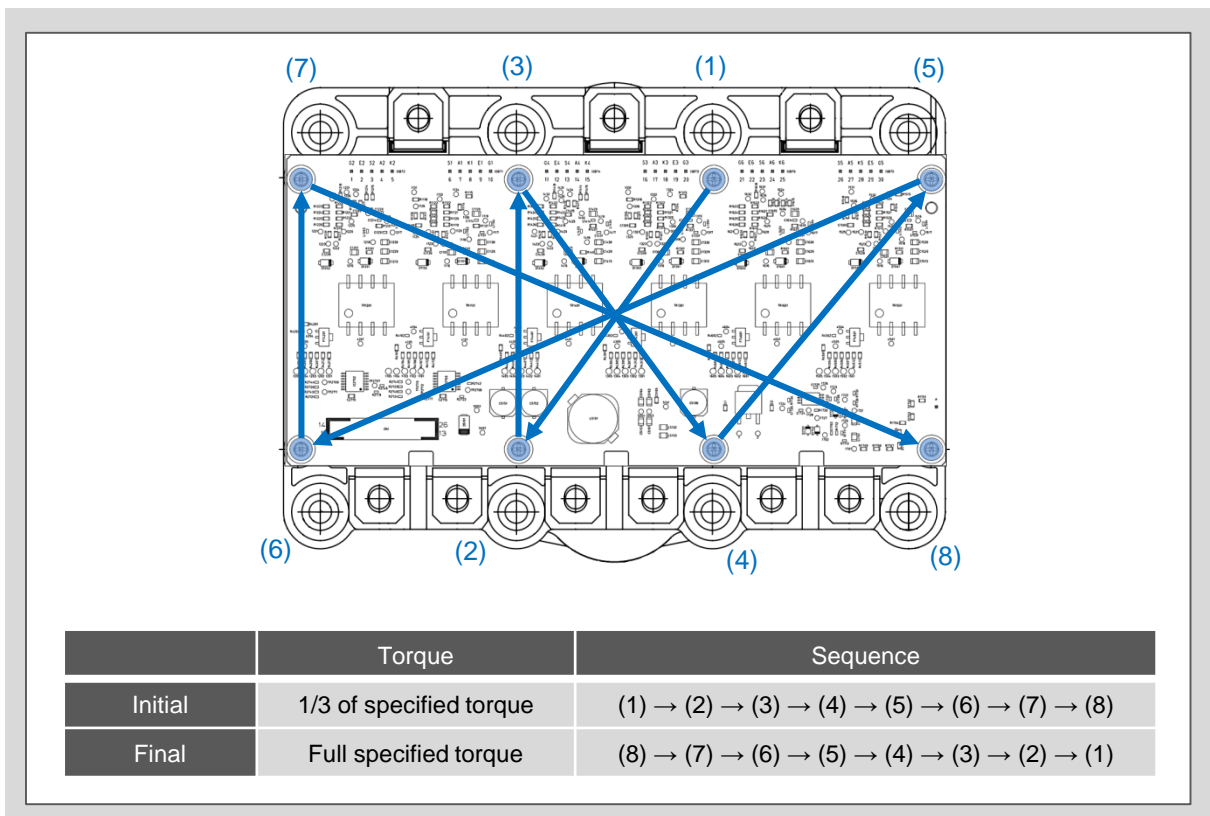

Fig. 3 Screw sequence for PCB fix
- (b) Fix the screws temporarily with 1/3 of the final fastening torque and in the sequence from (1) to (8) in Figure 3.